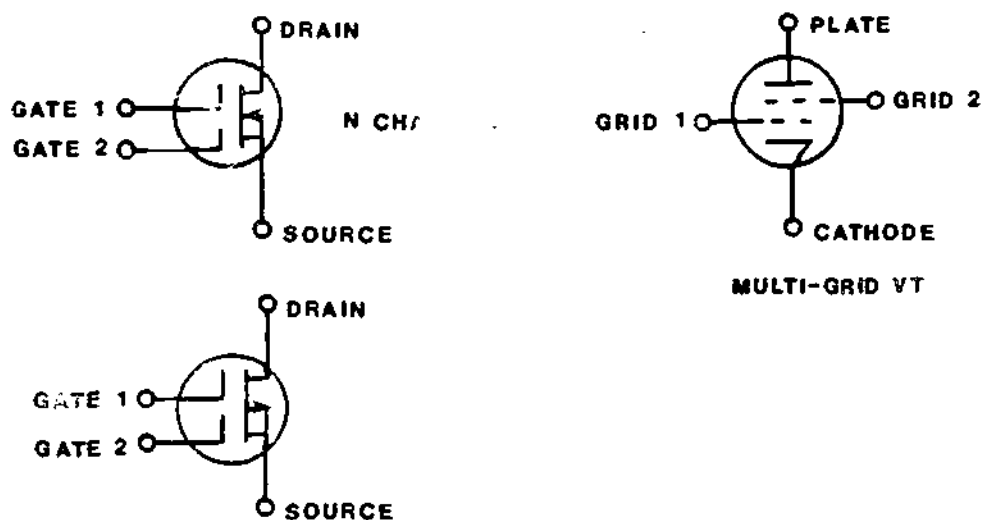

Figure 19
- (20.) The MOSFETs you have learned about have only one gate, and are called single-gate MOSFETs. Some MOSFETs have an additional gate, & are called dual-gate MOSFETs. The dual-gate MOSFET operates very much like a multi-grid vacuum tube. The labeled schematic symbols for N- and P-channel dual-gate MOSFET's, and a multi-grid vacuum tube, are shown in Figure 19.